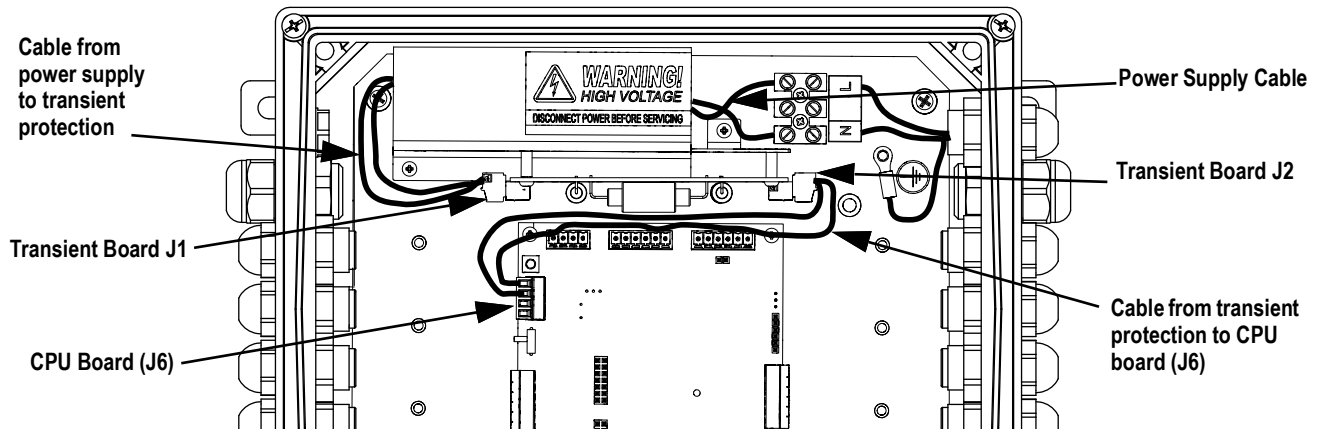

Figure 9-8. Connect Cables to Power Board and Transient Protector Board
8. Connect the cables to the power board and transient protector board. See Figure 9-8.